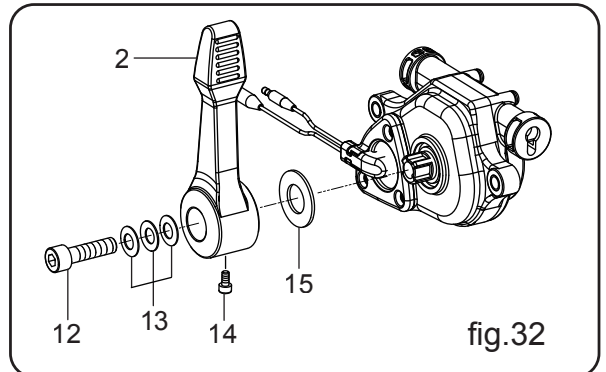

fig.32
(1) Disassembly
Remove the lever (2) by unscrewing a bolt (12) after unscrewing a bolt (14). (fig.32)